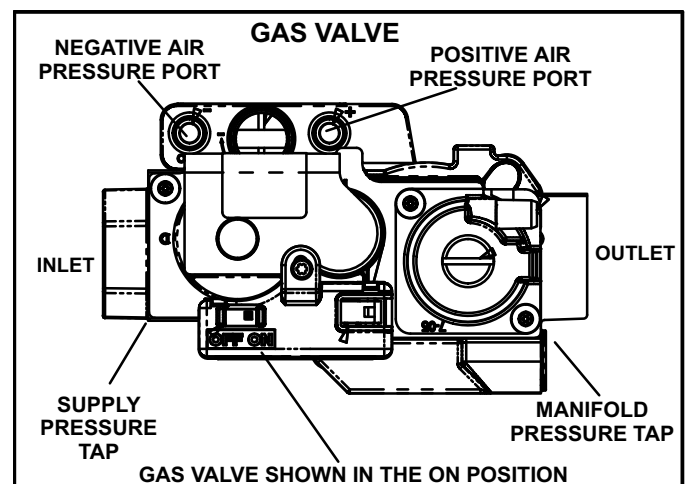

FIGURE 49
Gas Valve Operation (Figure 49)
- 6 - Move the gas valve switch to the **OFF** position. See figure 49.
- 8 - Move gas valve switch to the **ON** position. See figure 49. Do not force.